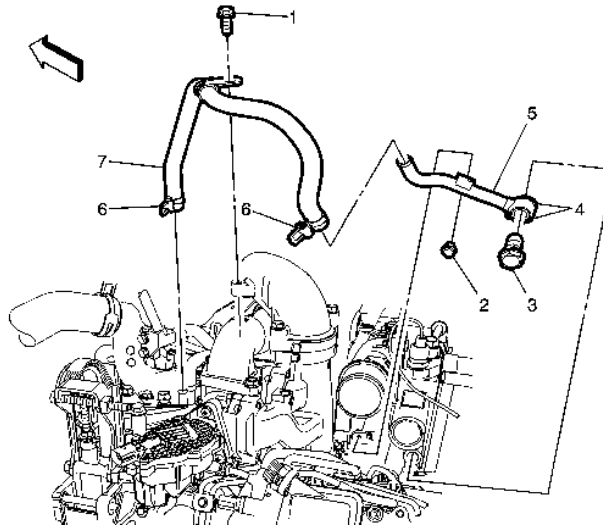

Fig. 7: Turbocharger coolant return pipe removal
10. Remove turbocharger coolant return banjo pipe from the turbocharger (Item #5 in Fig. 7 below)